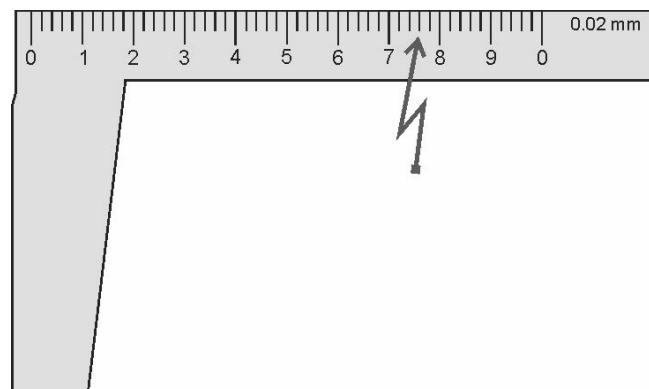

Fig. 4 A 0.02 mm vernier scale.
3. **Figure 4** shows the vernier scale on the moveable jaw of a vernier caliper. The 0,02 mm indicates that this scale enables one to take readings with a 0,02 mm resolution. We say that the least count of the caliper is 0,02 mm. The line to the right of the 0 line is the 0,02 mm line. To its right is the 0,04 mm line, then the 0,06 mm followed by the 0,08 and the 0,10 mm with a 1 digit next to it. Note the final 0 in 0,10 mm! What vernier line is the arrow pointing to on the scale?